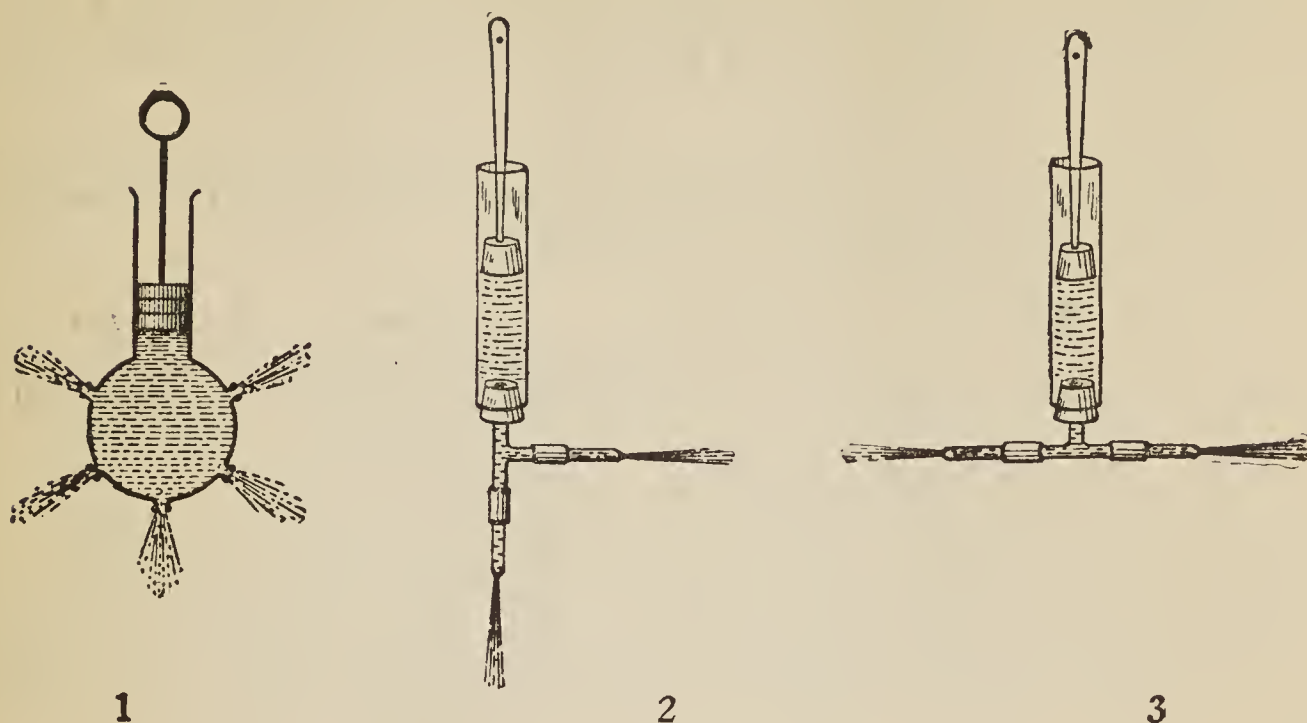

Fig. 69.—Illustrating Pascal's Law.
This law is usually illustrated by means of the apparatus shown in (1) Fig. 69. It is a syringe with a glass bulb which has five nozzles of the same size and in the same plane. When the syringe, filled with water, is held with the nozzles horizontal and the plunger is forced in, the streams which issue from the nozzles are of exactly the same length. This shows that pressure exerted on water is transmitted equally in all directions. This is very surprising because since the plunger exerts the pressure in the direction of the front stream we might expect this stream to be the longest: we find, however, that they all have the same length.
Use the apparatus (2) Fig. 69. Fill the tube with water, insert the plunger, hold the nozzles horizontal, and force the plunger in steadily. Are the streams of equal length?
Repeat with the apparatus (3) Fig. 69.
With (2) Fig. 69 you show that the pressure is transmitted equally forward and sidewise, and with (3) Fig. 69, that it is transmitted equally in both sidewise directions.